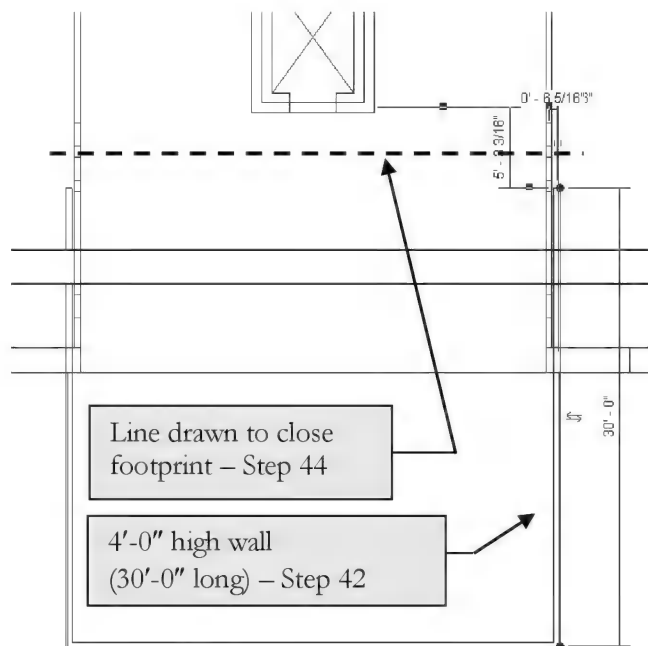

FIGURE 6-1.14 4'-0" high wall above curtain wall in atrium
42. Draw three walls, so their exterior faces align with the exterior face of the curtain wall below. Be sure to use *Snaps* and set the wall height to **4'-0"** (Figure 6-1.14).
44. Use the **Line** tool to draw a line to close the open side (Figure 6-1.14). This will create a closed rectangle to complete the roof; "Defines slope" unchecked.